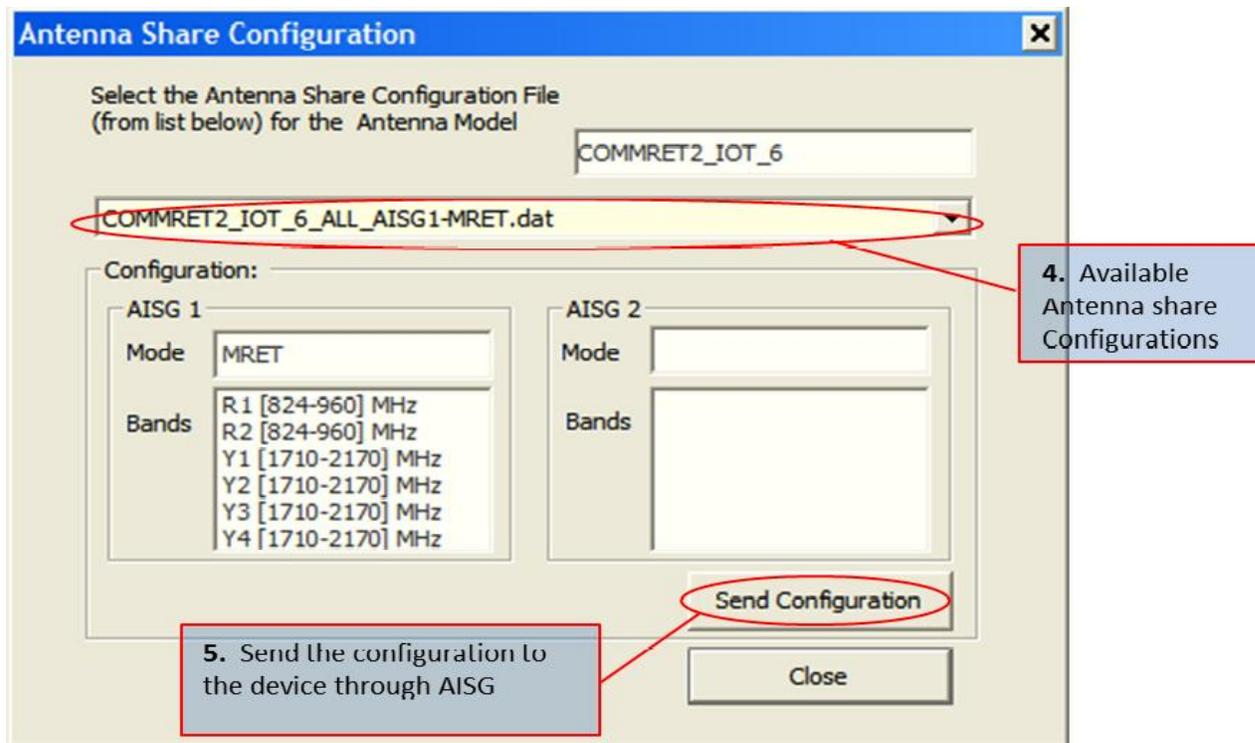

Figure 15-3. Select and Send Antenna Sharing Configuration
4. The “Antenna Share Configuration” window is displayed. This window contains the list of Antenna Share Configuration file that are available for the given antenna model name. When a relevant configuration is selected, the preview of the frequency bands that are mapped to AISG and AISG 2 are displayed, as shown as in the Figure 15-3.